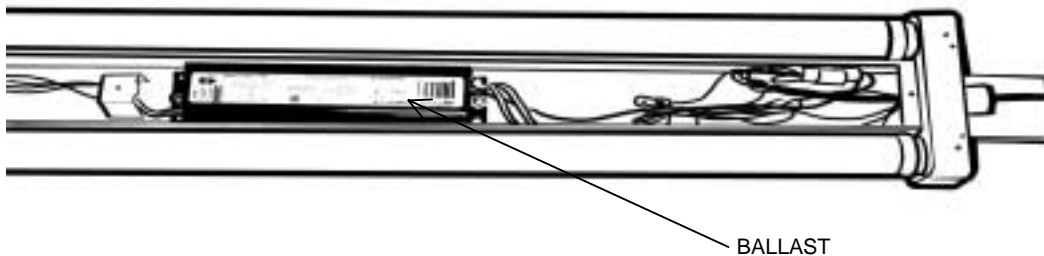

Figure 5. Lamp Assembly.
**Permanently Mounted Fixture Ballast Replacement:** Turn off lighting system circuit breaker #19 on the Power Distribution Panel. Referring to Figure 5, remove the connectors at the fixture, tag the wires connected to the ballast and disconnect the wires. Remove the four machine screws from the ballast plate and remove the ballast.